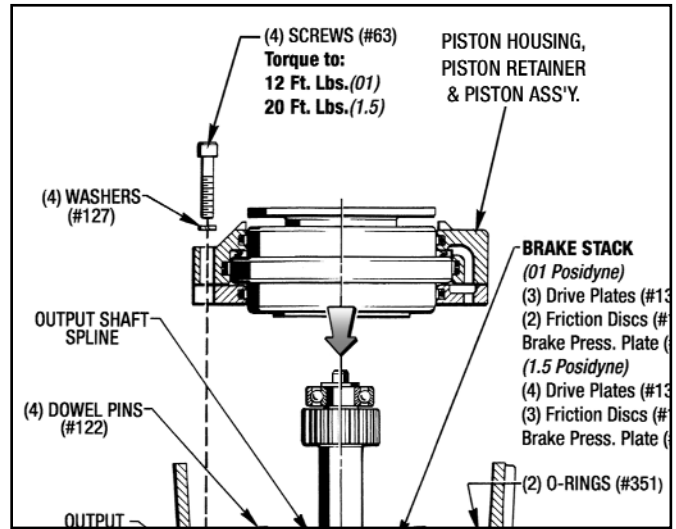

Figure 9.8 - Installing Brake Stack
(See Figures 9.8 and 10.1)
(See Figure 9.8 and 10.1)
1. First place the (2) O-Rings (#351) into the (2) counterbores in the Output Housing. (See Figure 9.8 for location of these O-Rings.)
2. Attach the Piston Housing Assembly with (4) Screws (#63) and (4) Lockwashers (#127). (See Figure 9.8 for Torque Requirements.)